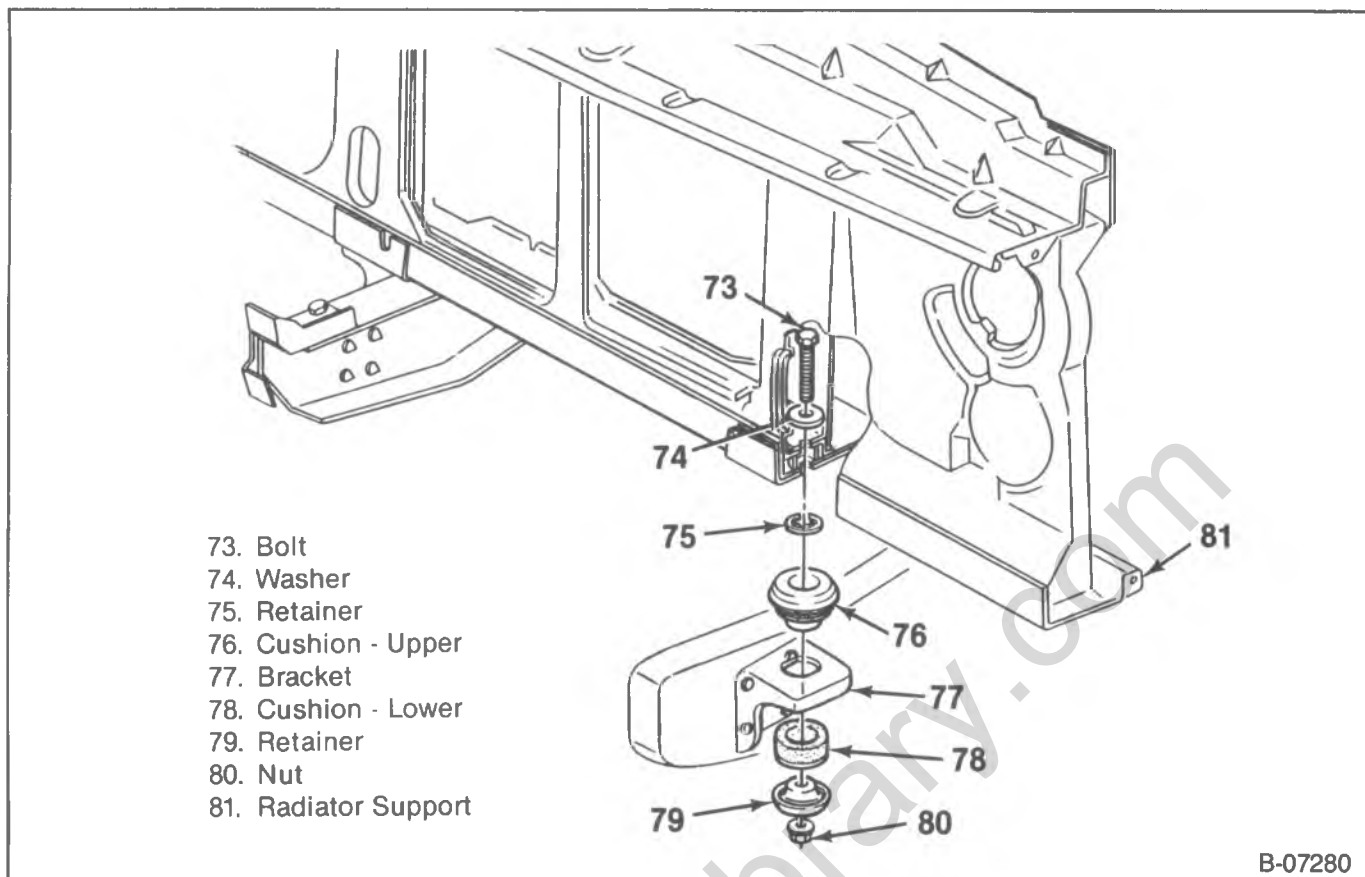

Figure 12—Radiator Support Mounting
↔ Remove or Disconnect (Figure 12)
↔ Install or Connect (Figure 12)
- Upper fender to door pillar bolt (48).
- Lower fender to door pillar bolt (45).
- Radiator support to frame nuts (80), lower retainers (79), lower cushions (78), upper cushions (76), retainers (75), bolts (73), and washers (74) (figure 12).
- Radiator support to frame washers (74), bolts (73), retainers (75), upper cushions (76), lower cushions (78), lower retainers (79), and nuts (80) (figure 12).